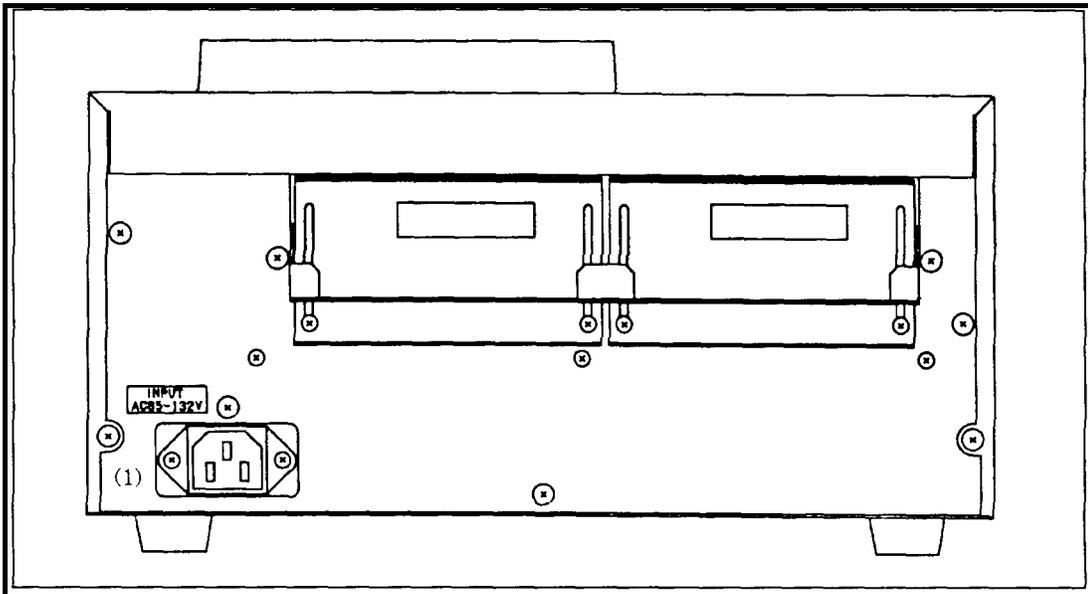

Figure 2.6 Rear View
Remove the SH-2 board from the main board when the SH-2 board is connected to the SH-2 board/EVA board connector on the side where the ICE is. Figure 2.6 shows the SH-2 board connecting locations.
- (2) Adjust position (height) of the rear ICE/EVA board/SH-2 board plug port cover so that ICE POD is in a horizontal position. ICE POD will then be secured to the Target Box. See Figures 2.6 and 2.7.